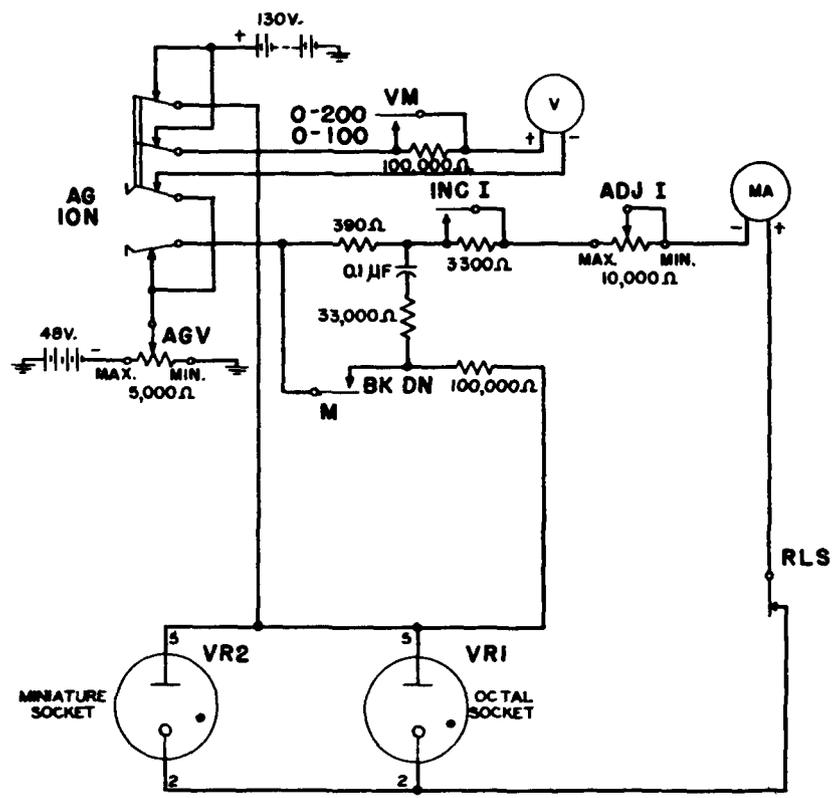
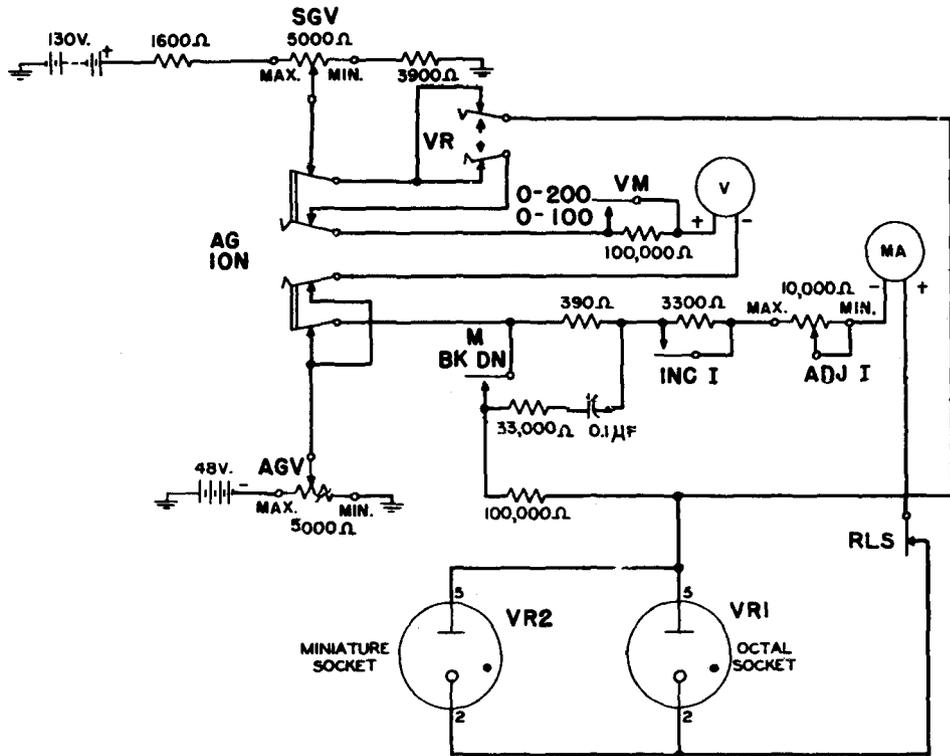

Fig. 6 - Breakdown Voltage Tests
Fig. 7 - Breakdown Voltage Tests OA3/VR75, OB2/VR105 or OC3/VR105 Two Element Tubes
4.17 The circuit arrangement for applying the breakdown test voltage when testing the OA-2 (VR-150) and OD-3 (VR-150) two-element tubes is shown in Fig. 6.
4.21 The circuit arrangement for applying the breakdown test voltage when testing the OA-3 or OB-2 two-element tubes is shown in Fig. 7. This arrangement is similar to Fig. 6 except that the +130 volt potential is under control of the SG V potentiometer thereby making it possible to use a lower test breakdown voltage as required by the characteristics of these tubes.